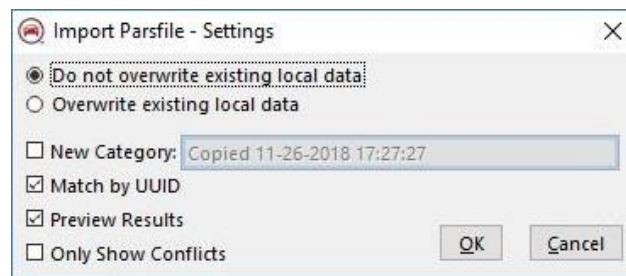

Figure 2. Import Parsfile Default Settings
3. You should click **OK** to accept the default **Import Parsfile – Settings** (Figure 2) as shown.